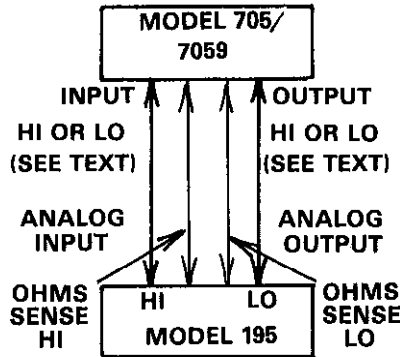

Figure 5. Test Set Up For Contact Resistance Test
- Set up—Connect a short (1" or less) piece of copper wire (#18 AWG) to the input and also the output of the pole (signal HI or LO) or the channel to be tested (see Figure 5 for the test set up diagram).